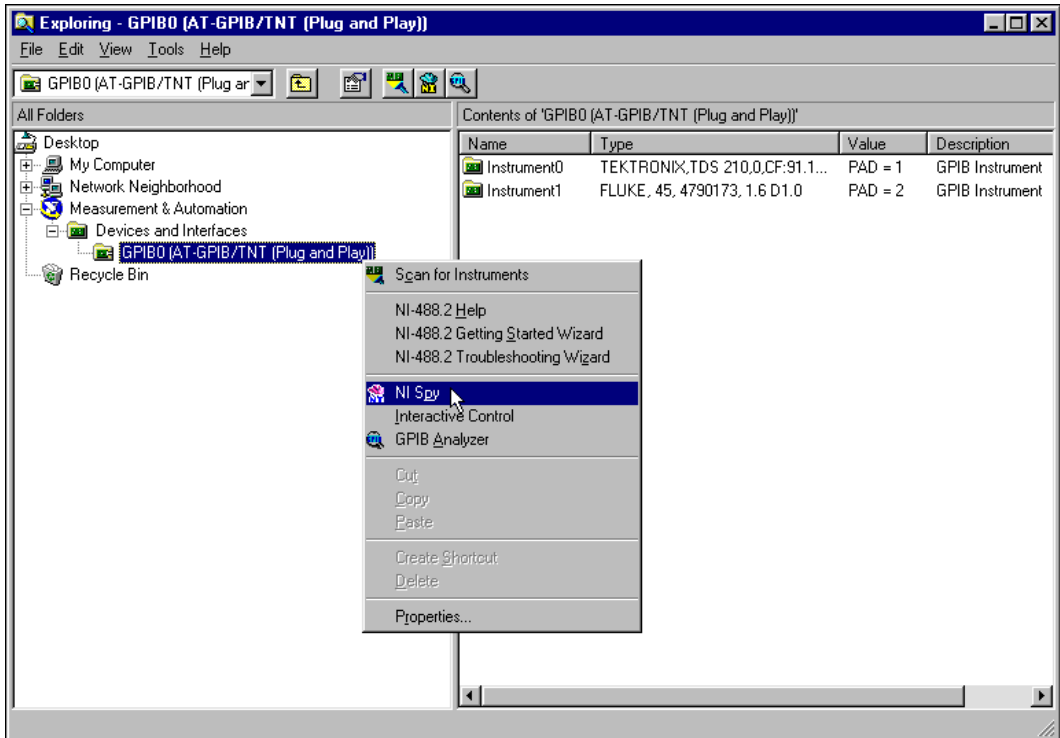

Figure 2-12. Select NI Spy
1. Select a GPIB interface under **Devices and Interfaces** in the left window frame of Measurement & Automation Explorer, right-click, and choose **NI Spy**, as shown in Figure 2-12.